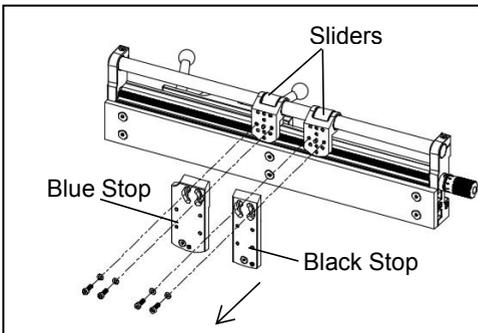

Fig. 10
- As shown in Fig. 10, remove the black and blue stops from the fence sliders and set them aside.